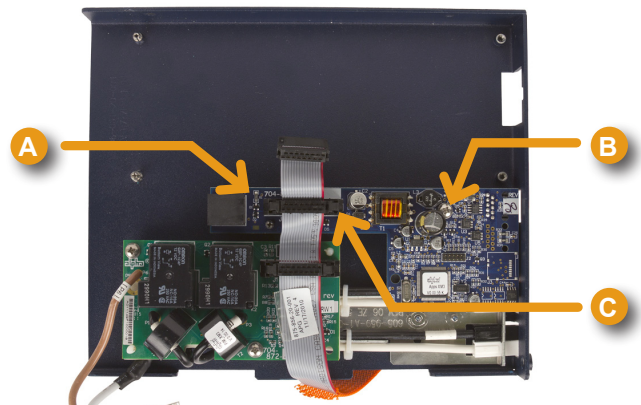

Fig. 2-16, APPS Card Standoff, Screw and Ribbon Cable Locations
2. With the front panel open, install the APPS card by pressing it firmly onto the standoff (A) and fastening the 6-32 screw (B) (see Fig. 2-16).
3. Connect the ribbon cable (C) and ensure the locking clips are closed.